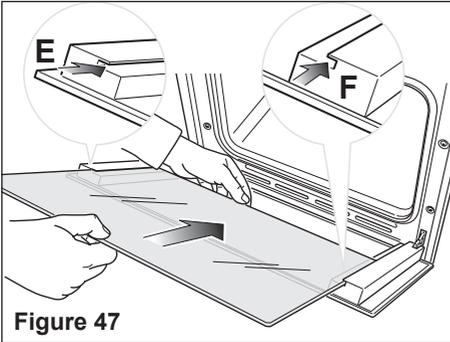
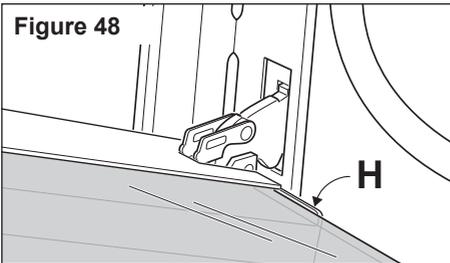

Figure 47
Figure 48
- Insert the pane in the left “E” and right “F” slide guides (fig. 47), and gently slide it to the retainers “H” (fig. 48).